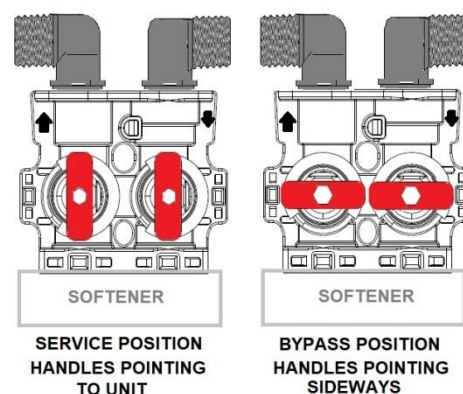

Fig 2
- Position the softener in the desired location. The unit comes with two 90° ¾" male NPT elbow fittings (see fig 1). You can rotate them at any angle to suit your installation. **Make sure that the bypass valve is in bypass mode as shown in fig 2.**
- Using the Allen key (included), **turn the bypass inlet slightly** (refer to **fig 2**) to allow water to run into the unit. The water should initially fill the tank slowly. Once the tank is full of water, you can open valve fully. This prevents resin from being pushed up into the control head by the initial surge of water going in.